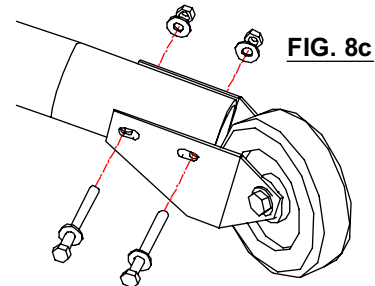

FIG. 8c
1. Remove foot pad assembly(1) from both leg tubes by removing bolt(2) and set aside for future use.
2. Mount wheel kit(3) using hardware supplied as per Fig.8c